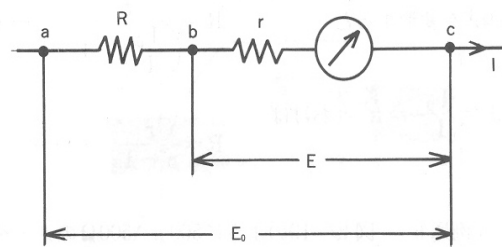

Fig 2-16
In Fig 2-16, for the circuit between b and c, the next expression is true from Ohm's law (1) :